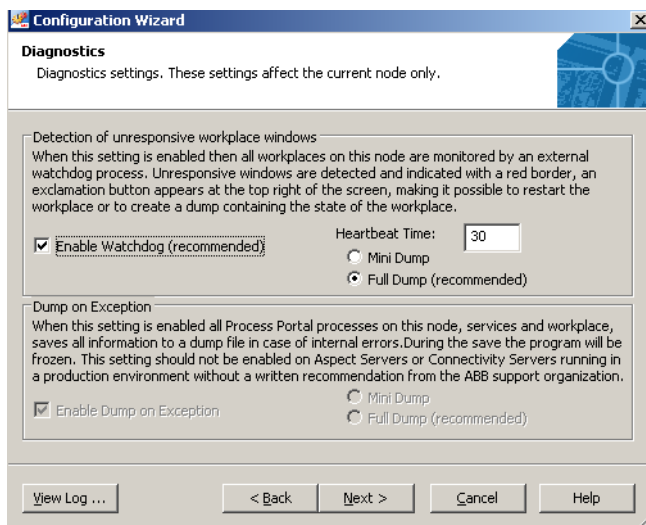

Figure 31. Diagnostics Dialog Box
2. To enable the Watchdog function select the **Enable Watchdog** check box, see Figure 31. When this function is enabled, unresponsive windows are indicated with a red frame. The **Heartbeat Time** is by default set to 30 seconds. A dump file can be saved containing information about the state of the